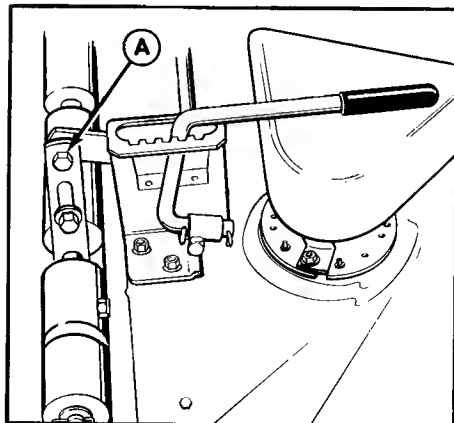

Figure 41. Shoulder Bolt
7. Loosen the shoulder bolt (A, figure 41) and raise or lower mower as necessary to level it. Retighten the shoulder bolt.